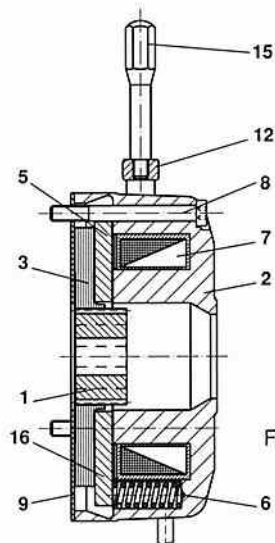

Fig. 1
3. Mounting the Hand Release (see figs. 1, 4 and 5)